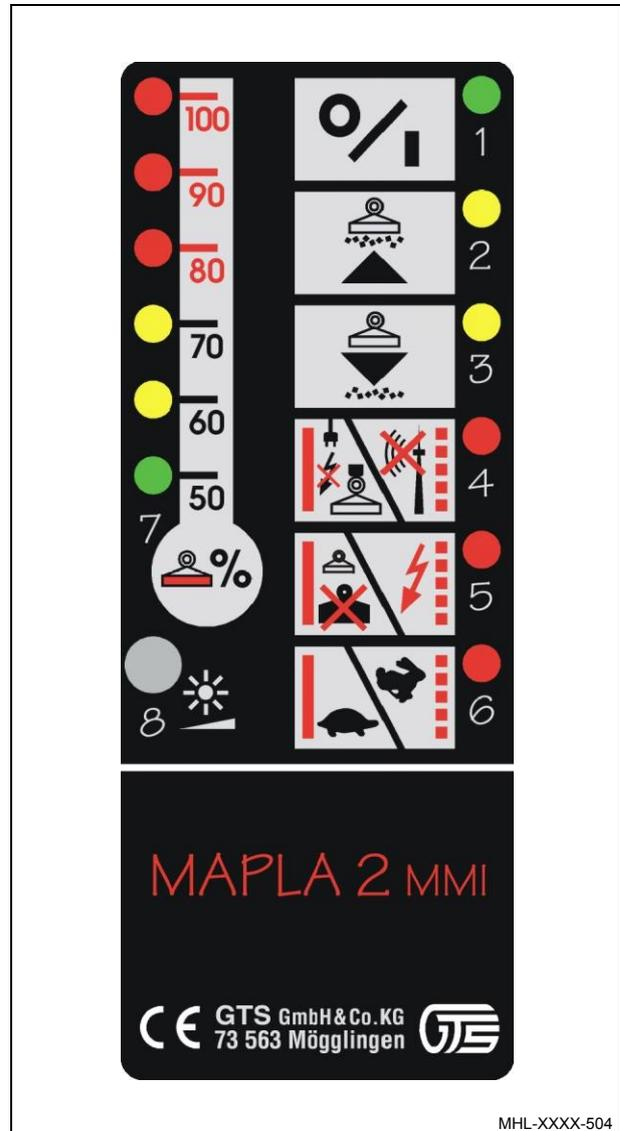

Fig. 145 Magnet system control device
- ▶ In the "Speed and FINE MODE" menu, set the speed of the diesel engine to full throttle by turning the multifunction button (144/21) clockwise. Insufficient speed results in the generator not being ready for operation. LED 6 (see Fig. 145) in the control device for the magnet system (144/22) lights up.
- ▶ Activate the magnet using the pushbutton (144/1) on the left-hand four-way control lever. LED 2 (see Fig. 145) in the magnet system (144/22) control device is lit up.
- ▶ To drop the material, deactivate the magnet with the pushbutton (144/1). LED 3 (see Fig. 145) in the magnet system control device (144/22) lights up briefly.